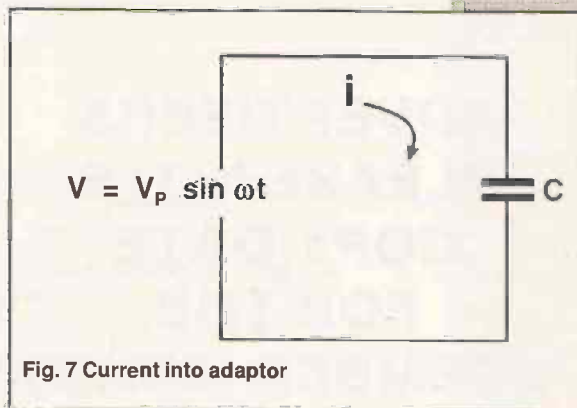

Fig. 7 Current into adaptor
Elementary a/c theory states (usually dogmatically) that the opposition to current flow (X_c) presented by a capacitance (C) is given by $X_c = 1/(\omega C)$. Calculus will help us to see why. Figure 7 shows a capacitance stuck across a sinusoidal voltage generator. It is evident that the voltage across C and the instantaneous voltage (v) delivered by the sine wave generator must at all times be equal - because Mr Khirchoff said so!. The voltage across the capacitance (V_c) is given by $V_c = q/C$ so we may write: